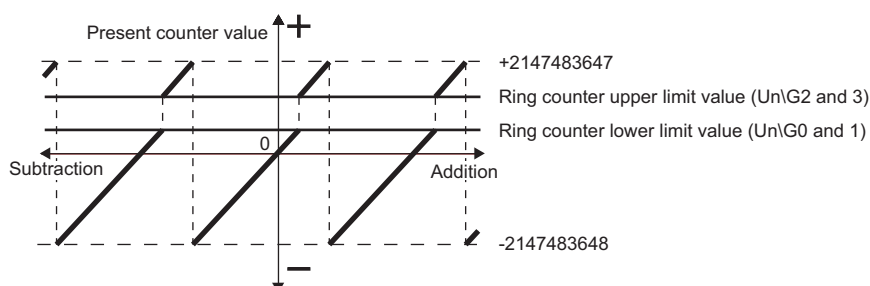

Figure 5.5 Ring counter operation image 2
2) When the following range is applied, the operation is as shown in Figure 5.5.